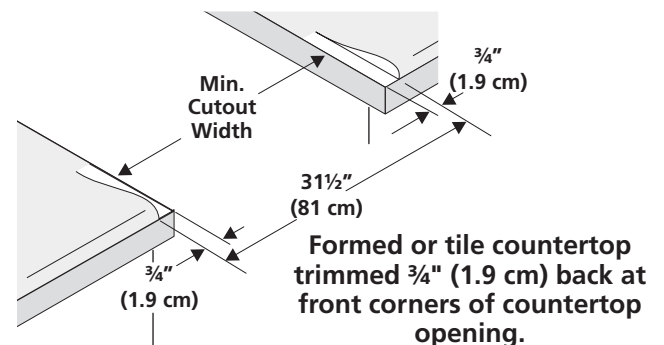

Figure 2
- **Tile countertops** may need trim cut back $\frac{3}{4}$ " (1.9 cm) from each front corner and/or rounded edge flattened (Figure 2).